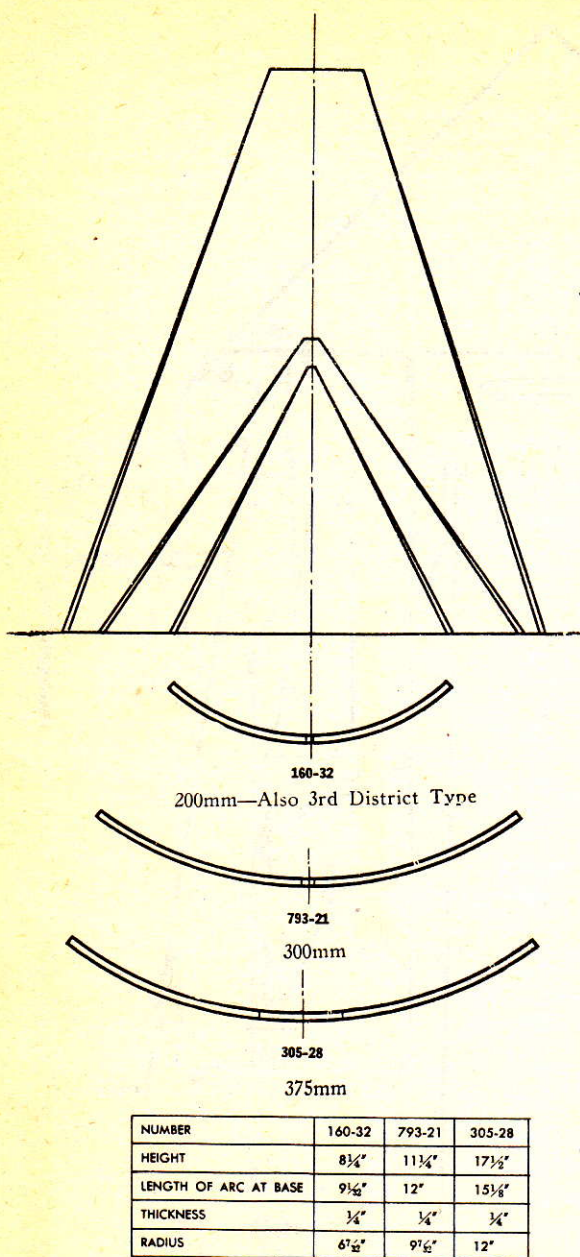

FIGURE 20-20.—Storm glass for acetylene lanterns.
A. The stormpane glass, figure 20-20, is imbedded in place with a mixture of common putty, pure white lead, and whiting in the ratio of three parts putty,